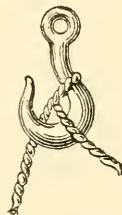

FIG. 231.
*Blackwall Hitch.*—A hitch used to jam the bight of a rope to a hook, &c. (Fig. 231.)